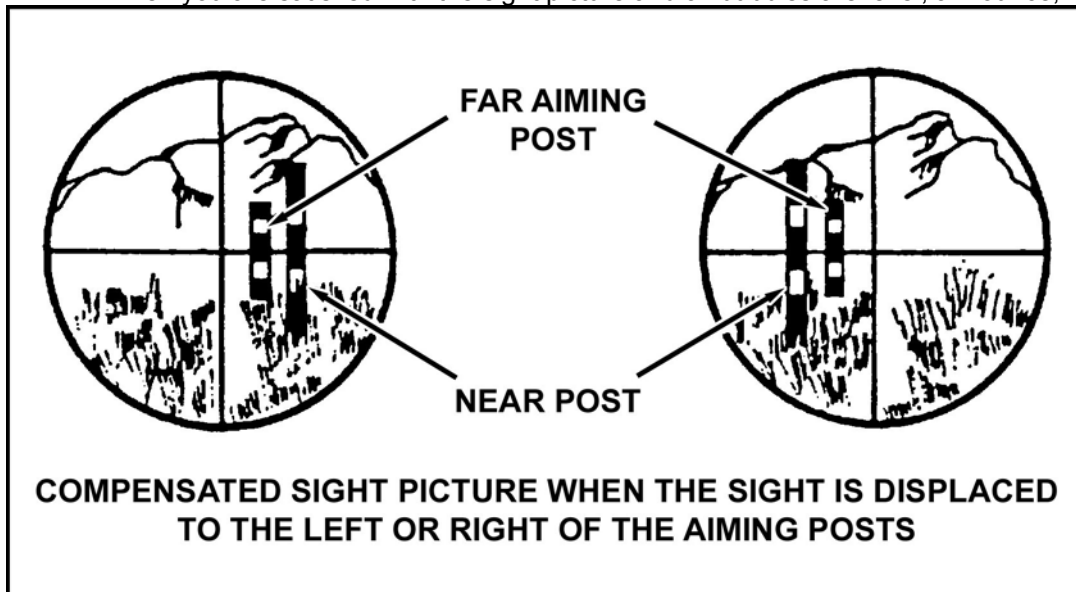

Figure 3. Compensated sight picture.
(12) Gunner: Take up the proper compensated sight picture (Figure 3) and fine-level the sight. When you are satisfied with the sight picture and all bubbles are level, announce, "Up."